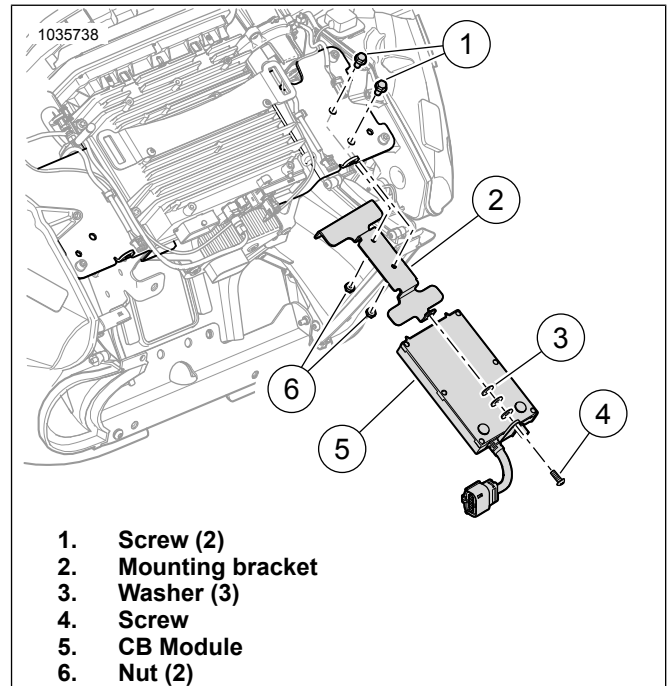

Figure 4. Install CB Module: Frame-Mounted Fairing
1. See Figure 4. Install mounting bracket (2).
2. Install screws (1) and nuts (6). Tighten.